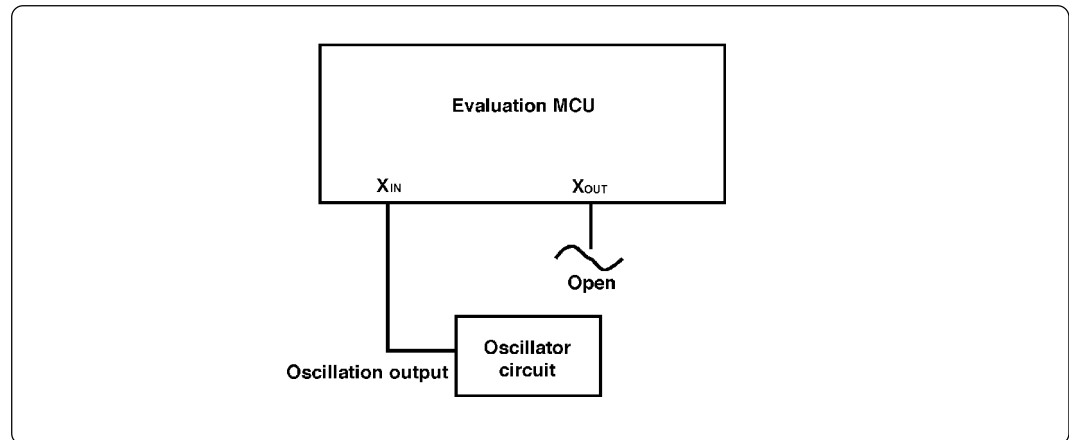

Figure 3.3 External oscillator circuit
- To operate the emulation pod with an external clock, construct the oscillator circuit as shown in Figure 3.3 in the target system and input the oscillator output at 50% duty (within the operating range of the evaluation MCU) into the X_{IN} pin. And the X_{OUT} pin should be open.